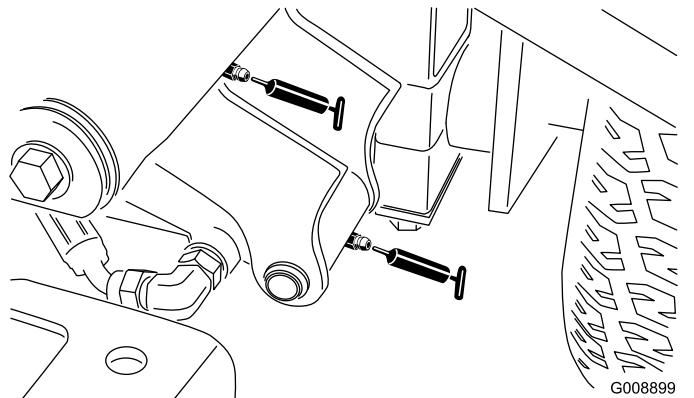

Figure 65
- Left front lift arm pivot and lift cylinder (2 fittings—Figure 65)